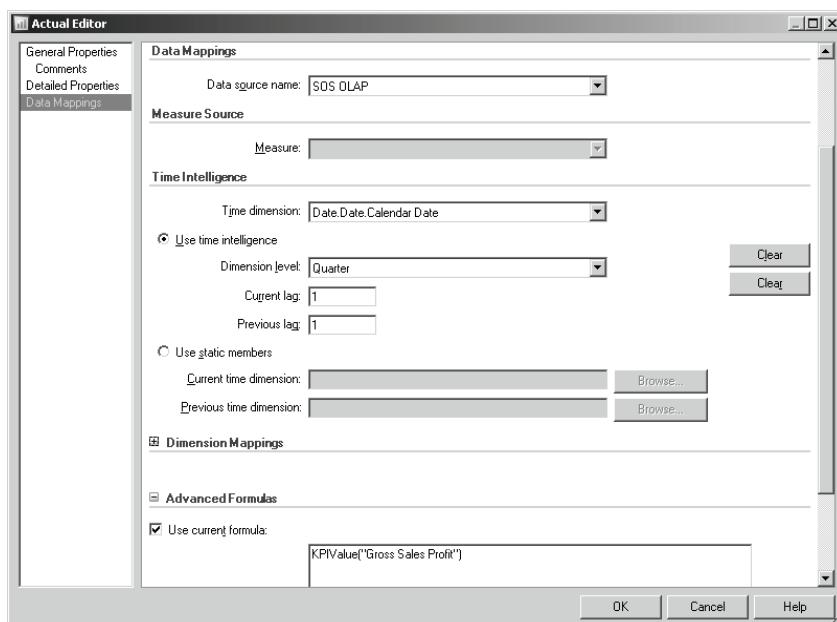

Figure 19.32 When the KPIs are defined in UDM, use the KPI-related MDX functions to derive the KPI actual and target values.
4. Switch to the Data Mappings tab of the Actual Editor (Figure 19.32) to define the KPI actual value.